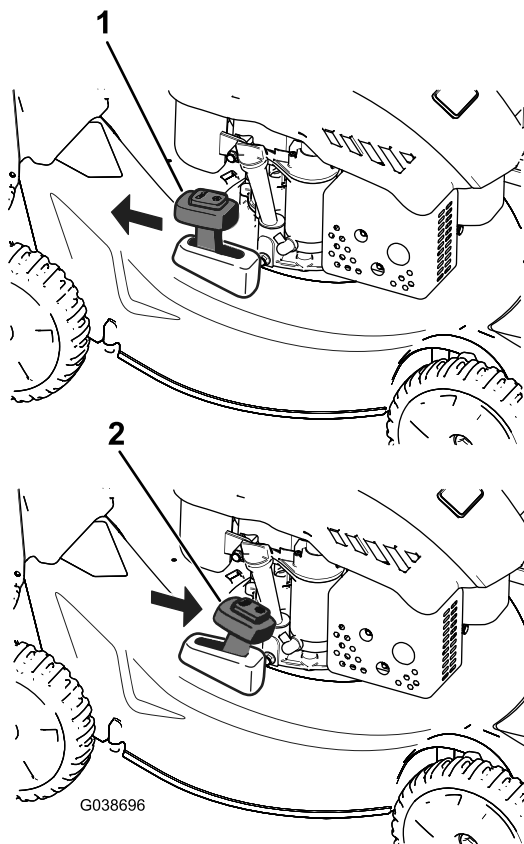

Figure 20
To recycle the clippings, move the bag-on-demand lever to the RECYCLING position (Figure 20).
2. Install the grass bag; refer to Installing the Grass Bag \(page 13\) and move the bag-on-demand lever to the BAGGING position as shown in Figure 20.
bag-on-demand lever should be in the BAGGING position as shown in Figure 20.